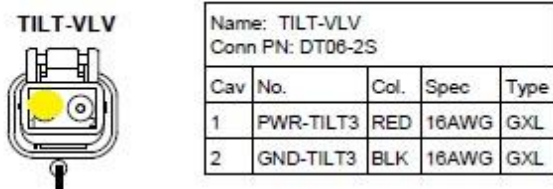

Figure 131
1. Check for power at pin 1 of the header tilt solenoid. Make certain the switch on the control box is set to tilt and the combine is powered on. Figure 131